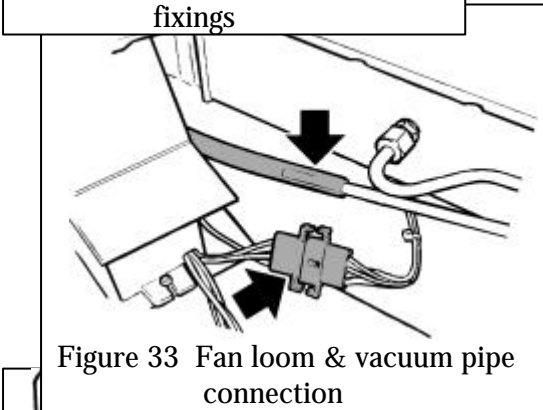

Figure 33 Fan loom & vacuum pipe connection
**13.9.3** Detach the fan wiring loom connection. (see figure 33).
**13.9.4** Detach the plastic vacuum tube from the metal vacuum pipe (see figure 33).